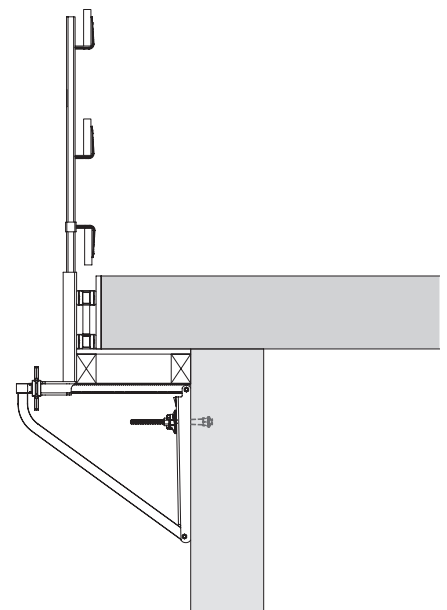

Fig. A2.06
8. Concrete the slab with cantilever and fit the toe board. (Fig. A2.06)